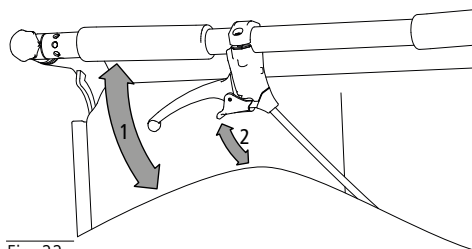

Fig. 22
1. The wheelchair can be braked in a controlled manner by pulling the brake lever up (1, Fig. 22).
2. To park the wheelchair, you can lock the brake lever. To do this, pull the small locking lever upwards as well (2, Fig. 22). The locking lever will then engage automatically. To release the brake simply pull the brake lever upwards and the locking lever will release automatically.